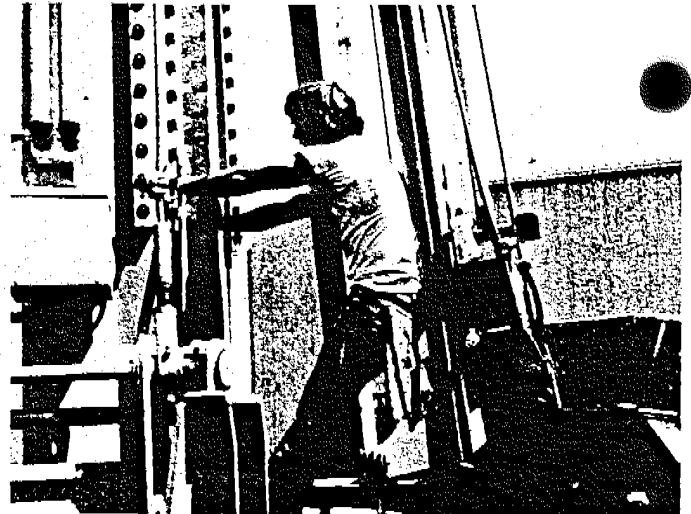

Fig. 36
e. Push the arms away from the tower. (Fig. 36)